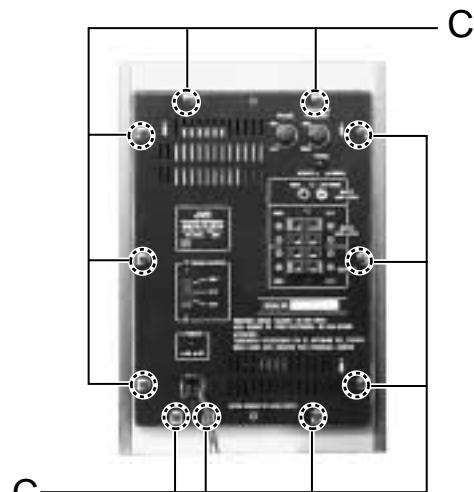

Fig.7
■ Removing the amplifier box (See Fig.7, 8)